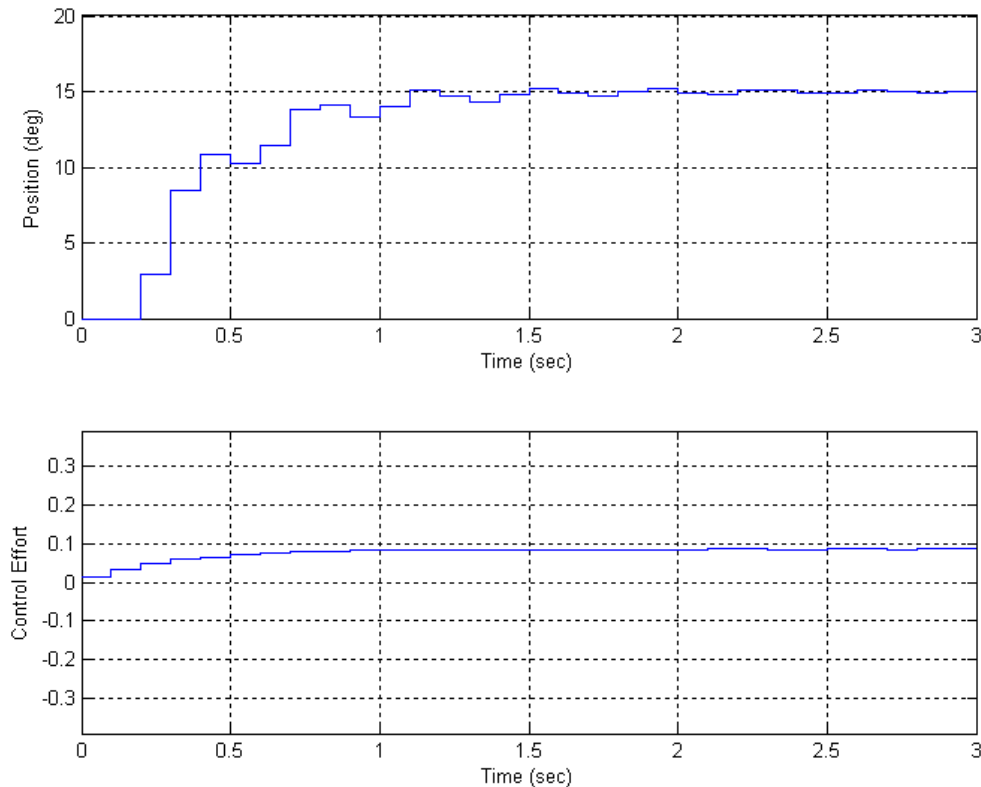

Figure 1: Matlab/Simulink results for PI controller.
- Run **DT\_PID\_driver.m** and print out the picture and attach it to this homework. It should look like Figure 1.